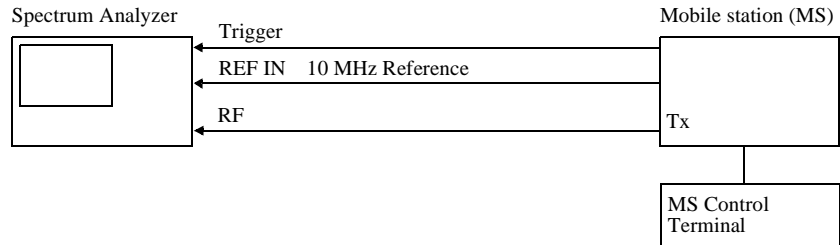

Figure 2-27 Setup for the measurement of the Power vs Time
1. Connect the unit under test as shown in Figure 2-27.